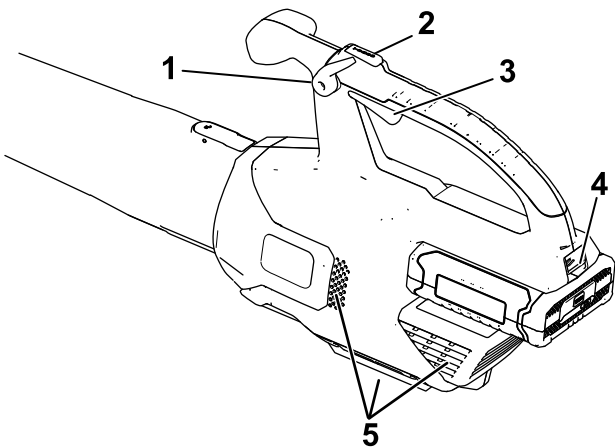

Figure 4
2. To start the blower, squeeze the variable-speed trigger (Figure 4).
Note: Engage the speed lock to keep the machine on without pressing the variable-speed trigger (Figure 4).
To accelerate the blower speed, press and hold the turbo boost button for the desired amount of time (Figure 4).
To stop the blower, disengage the speed lock (if in use) and release the variable-speed trigger (Figure 4).